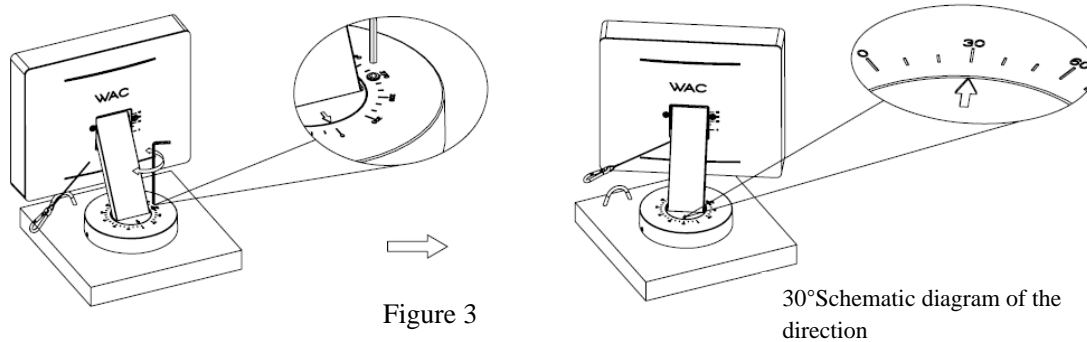

Figure 3
3. Adjust the horizontal direction of the lamp  $0\text{-}330^\circ$  (clockwise), rotate the corresponding Angle horizontally, align the arrow with the silk screen scale line of the base, lock the screws on the base (tool 4.0mm hex key) clockwise, and release the adjustment in the reverse direction (Figure 3);